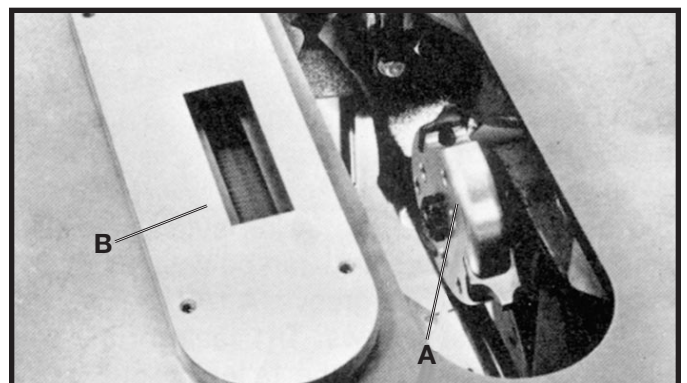

Fig. 63
The moulding cutterhead (A) Fig. 63, is assembled to the saw arbor as shown.
⚠ CAUTION THE ACCESSORY MOULDING CUTTERHEAD TABLE INSERT (B) FIG. 63, MUST BE USED IN PLACE OF THE STANDARD TABLE INSERT.